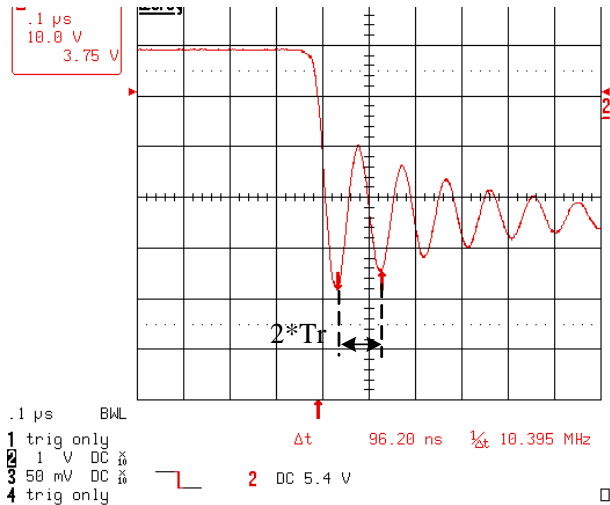

Figure 26. Diode Voltage Connecting C_{dsn}
- (b) Find a capacitor (C_{dsn}) value that makes the resonance period double ($2 * T_r$) when connected in parallel with the diode, as shown in Fig. 26.
- (c) Calculate the snubber resistor (R_{dsn}) by (14).